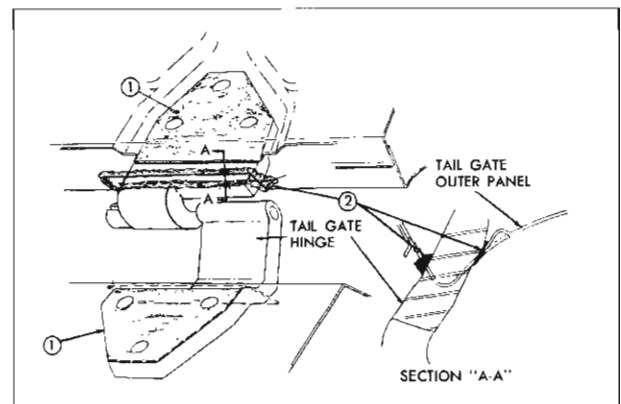

Fig. 5-9 Tail Gate Hinge
9. To install, reverse removal procedure. Prior to installation clean off old sealer from hinge straps and apply a coat of heavy bodied sealer to attaching surface of hinge straps (Fig 5-9).
Apply body caulking compound between hinge strap and hinge strap opening in tail gate panels (Fig. 5-9) to effect a watertight seal.
4. To install tail gate hinge assembly, reverse removal procedure. Prior to installing hinge, coat attaching surface of hinge with heavy-bodied sealer ("1" in Fig. 5-9). Install tail gate assembly as described under "Tail Gate Assembly—Installation".